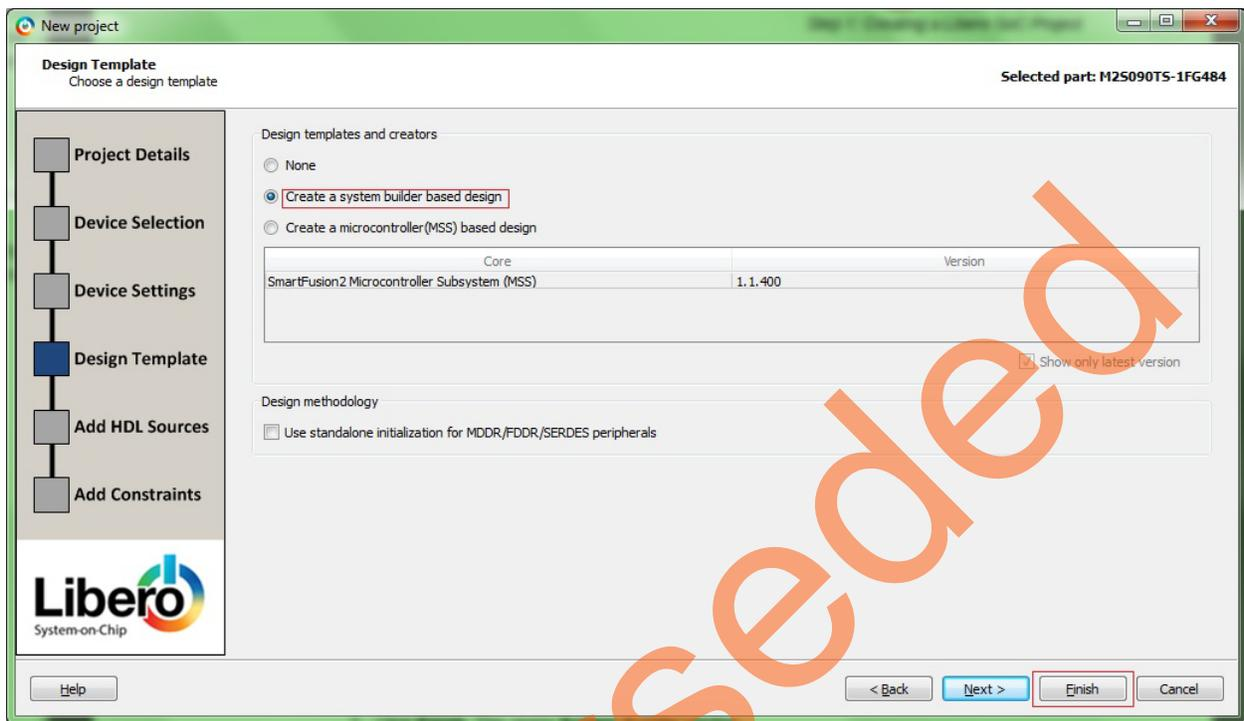

Figure 6 • Device Template Page
- Click **Next**. This opens **Design Template** page as shown in Figure 6, Under Design Templates and Creators, select **Create a system builder based design**.